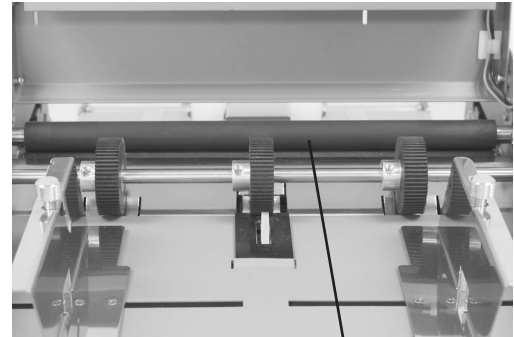

Fig. 18
1. Make sure machine is turned off and unplugged. All folders have four (4) rubber rollers (Fig. 18).